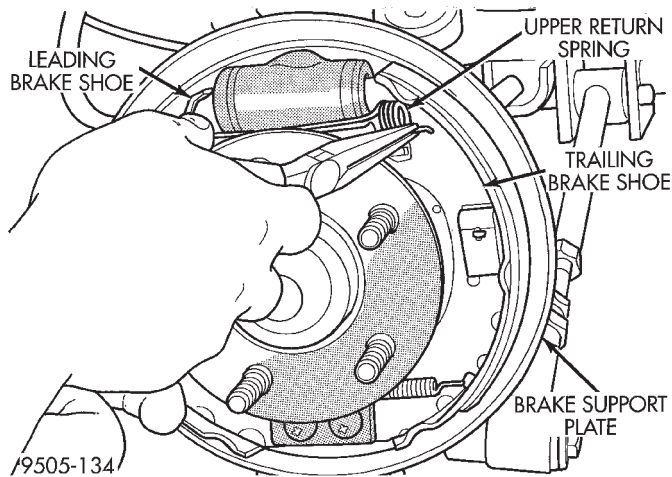

Fig. 64 Upper Brake Shoe Return Spring
(7) Remove the upper return spring from the leading and trailing brake shoe assembly (Fig. 64).
(8) Install the upper return spring (blue right side, green left side) on the leading brake shoe first, then on the trailing brake shoe (Fig. 64).